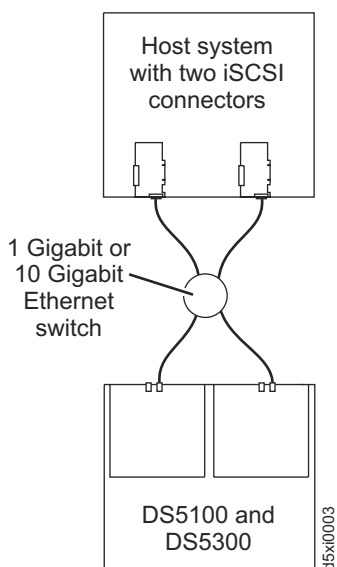

Figure 96. Example of a single-host, multiple-port configuration
- Single-host, multiple-port configuration, as shown in Figure 96 on page 144
Figure 96 shows an example of a multiple port, single-host configuration. A system that uses multiple iSCSI ports can provide enhanced performance compared to a single-port iSCSI connection.